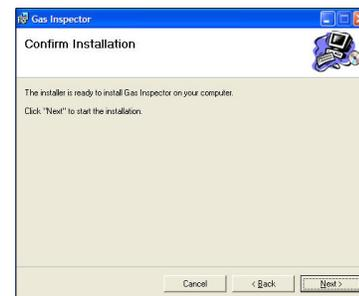

Figure 8—Confirm Installation
- A confirmation window will appear to verify that the installation should begin. Click *Next* to confirm (Figure 8).